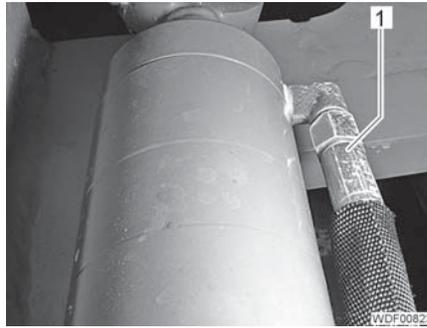

Fig. 131 Hydraulic line, rod end
- Unscrew and close off the hydraulic line (Fig. 131,1).